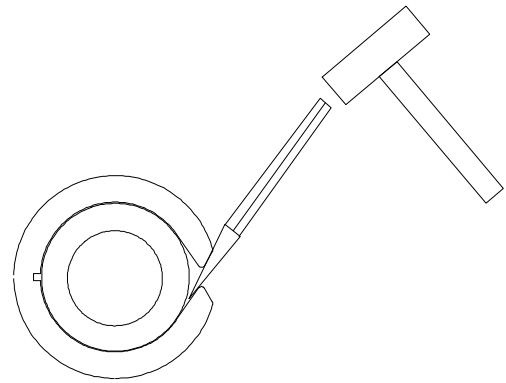

Fig. 7
- 4.2.2.4 Wear spacers are slotted to allow for in-place removal. Using a narrow chisel wedged between the stud and the spacer, as shown in Figure 7, wedge / pry the wear spacer until it fractures and is clear to be removed from the stud. Repeat for the remaining spacers in the set that is to be removed.